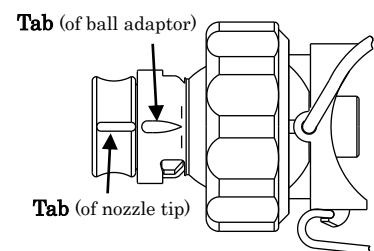

Fig. 9. Correctly assembled
- If the nozzle tip is not twisted on fully, it may fall off. The tabs of the nozzle tip and the ball adaptor will align when the tip is attached correctly as shown in Fig 9.